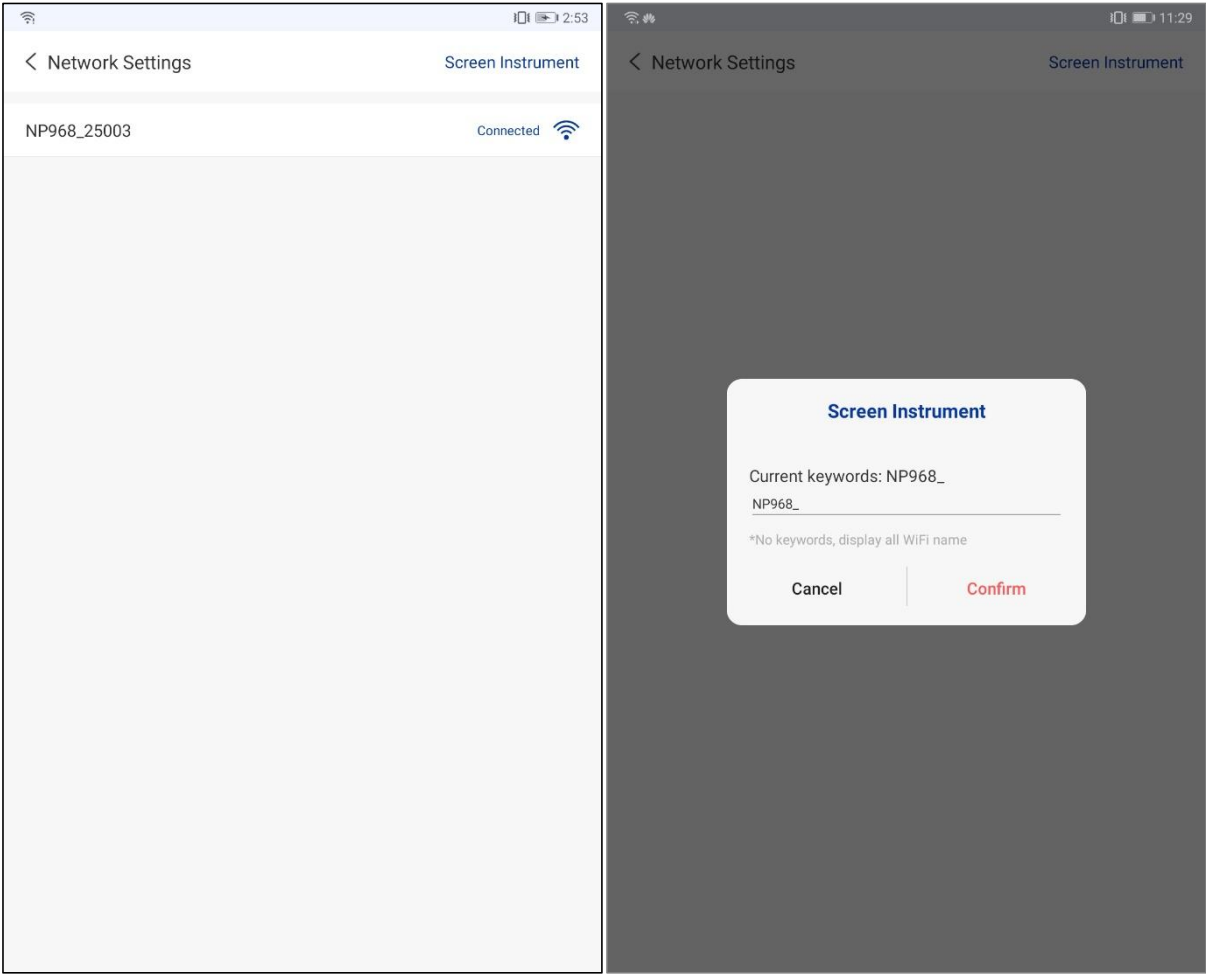

Figure 5-14. Setting Interface – Network Settings
2. **Network Settings:** intended to screen available NP968 Automated Nucleic Acid Extractors in LAN. User can click **< Screen Instrument >** and input the keyword for screening, then connect the corresponding instrument, as shown in figure 5-14.